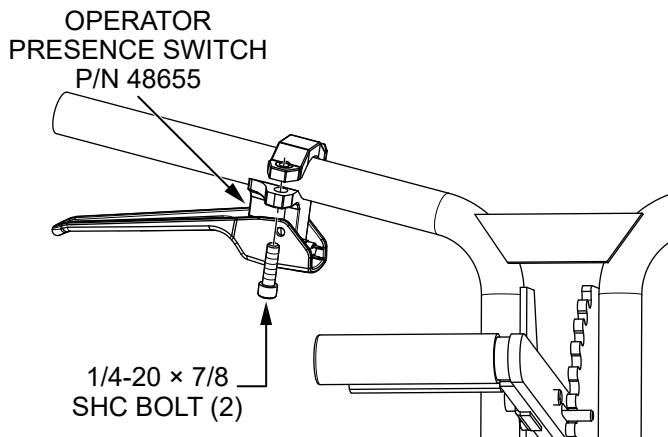

Figure 8. Install Operator Presence Switch
- Using the **two included 1/4-20 × 7/8 socket-head cap bolts**, install the **operator presence switch assembly** (P/N 48655) onto the right-side handle bar. Only finger tighten the bolts at this time. See Figure 8.
- Using an Allen wrench, tighten the **two socket-head cap 1/4-20 × 7/8 bolts** (Figure 8) to secure the presence switch assembly to the handlebar. Tighten until the switch assembly does not move. **DO NOT** overtighten.